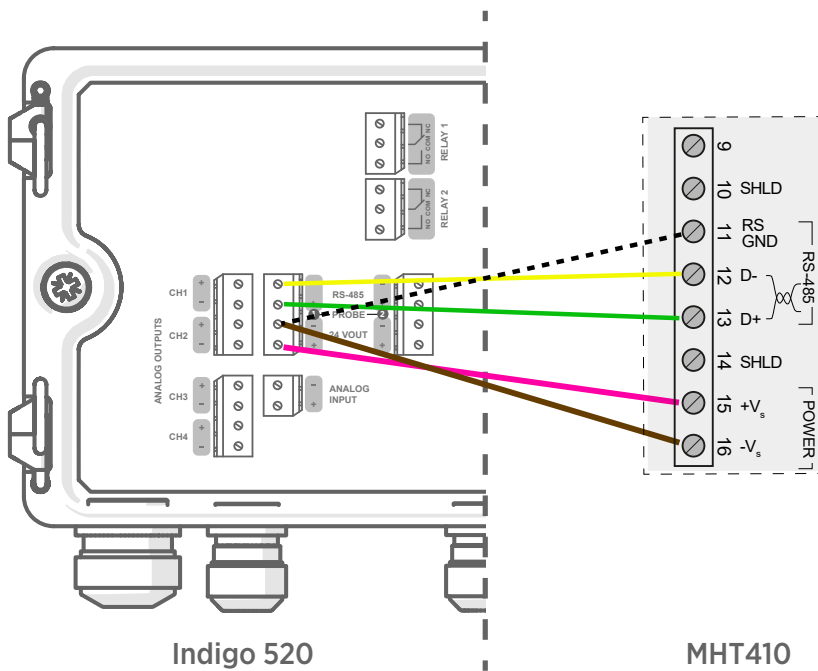

Figure 1 Wiring between Indigo 520 and MHT410 screw terminals
- The cable has enough free wires to fulfill the wiring diagram as per Figure 1 \(page 5\). Any excess wires should be properly isolated.